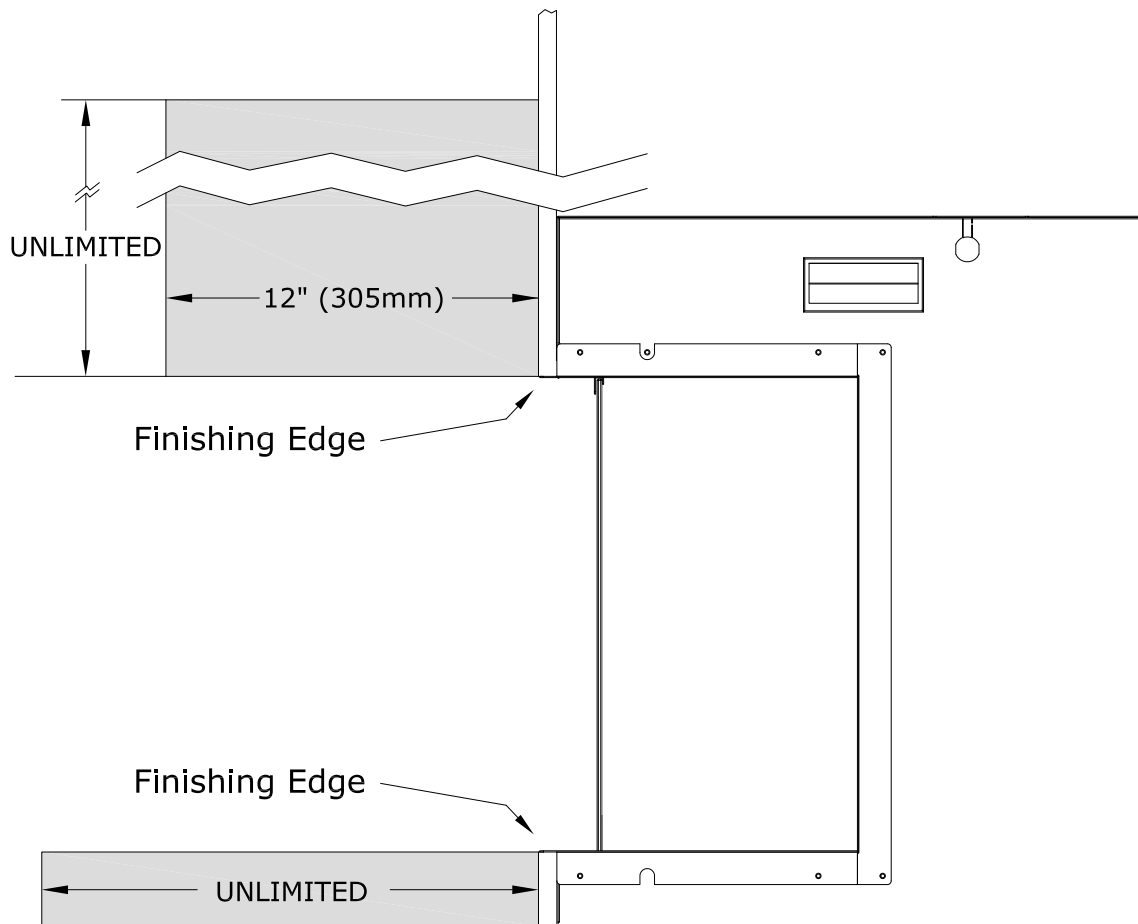

Figure 3.1 - Combustible Projections
- **Combustible Mantel Projections:** Mantel projections must fall within the 12" (305mm) combustible Wall Projection shown in Figure 3.1. The combined wall projection, finishing material, and combustible mantel cannot exceed a 12" (305mm) projection.